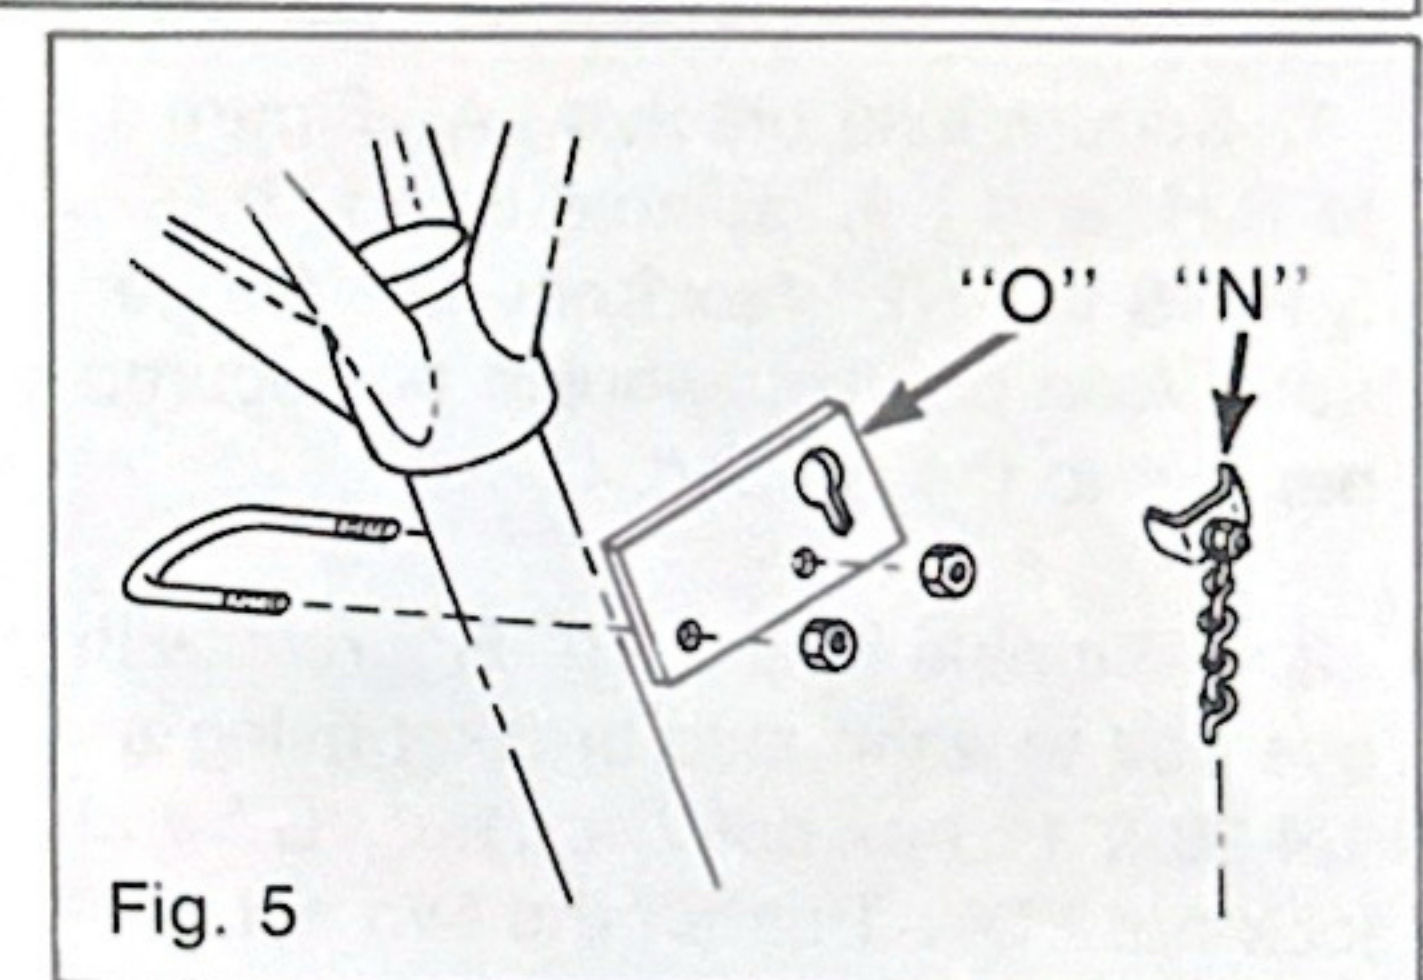

Fig. 5
9. Secure chain handle "N" Figure 5 to end of lift chain "M" using a 1/4-20 x 1/2" hex bolt and lock nut.
10. Fasten chain latch plate "O" Figure 5 to steering tube using the U-bolt and (2) 5/16-18 lock nuts. Keep plate approximately 1" from bottom of steering wheel.